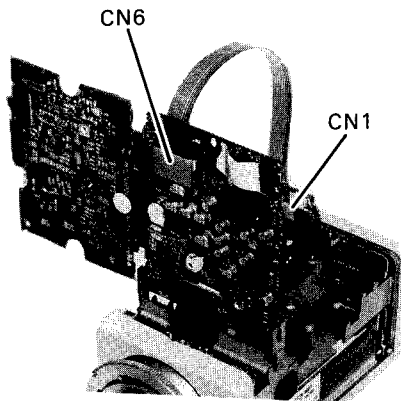

Fig. 2-6
- Referring to Fig. 2-6, place the Drive Board and connect the connectors CN6 on the Drive Board and CN1 on the Rear Board by the Extension Cable.